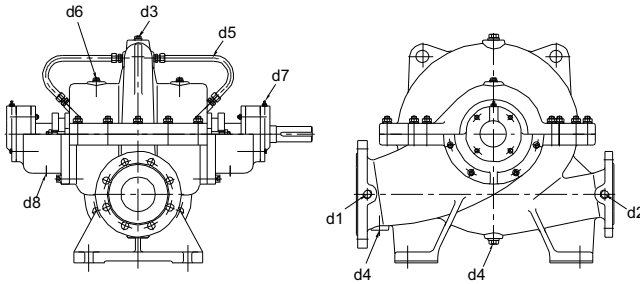

Fig. 8
- Every pump is fitted with connections on the pump casing to drain the pump and on the bearing bracket to evacuate the seal leakage from the stuffing box (**Fig. 8**). If required the pump drain and seal leakage can be piped to a suitable reservoir. The pump draining piping must be fitted with an isolating valve and both must be suitable for the maximum operating pressure of the pump.
Cooling, sealing and flushing of seal piping must be connected only to the designated connections located on the pump (**See Fig. 8 to 12**).